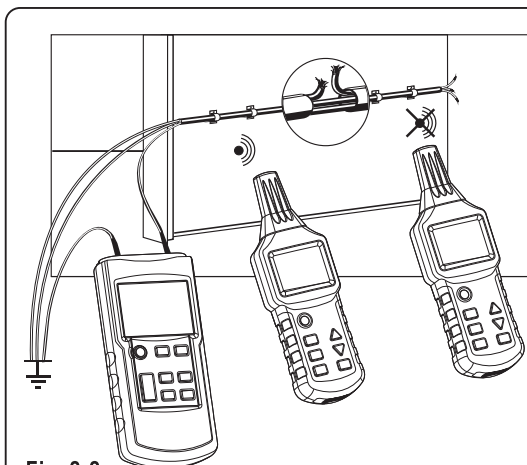

Fig. 2-2
In this example, please take a piece of a shielded cable with a cross sectional area of 1.5mm². Provisionally install 5m of this cable along the wall with nail clips at eye level as surface mounting. Make sure that the wall is accessible from both sides. Create an artificial interruption at a distance of 1.5m before the line terminal. The line terminals must be open. Strip the interrupted lead at the beginning of the light shielded cable and connect it via the test leads (provided) with hole ⑩ of the transmitter. Connect terminal ⑪ of the transmitter to a suitable ground. All other cable leads must also be connected to the transmitter and the same ground (See Fig. 2-2).